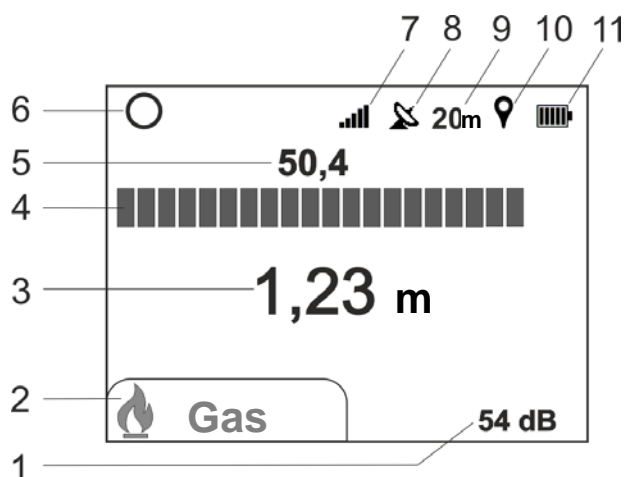

Figure 3.2a – search mode:
The view of the search mode with simultaneous depth measurement is shown in the Figure 3.2a.
Status of connection to the GPS module is indicated with "" or "" icons (item 8 in Figure 3.2a).
Next pressing of the  key will record the data in selected track. At the moment of record, the  icon shortly appears on the display (item 10 in the Figure 3.2a). The icon is green if the point saved in the track contains GPS coordinates and red if no reference to coordinates has been saved
Basing on coordinates received from the external GPS module, the locator calculates and displays the distance covered on the display (item 9 on Figure 3.2a):